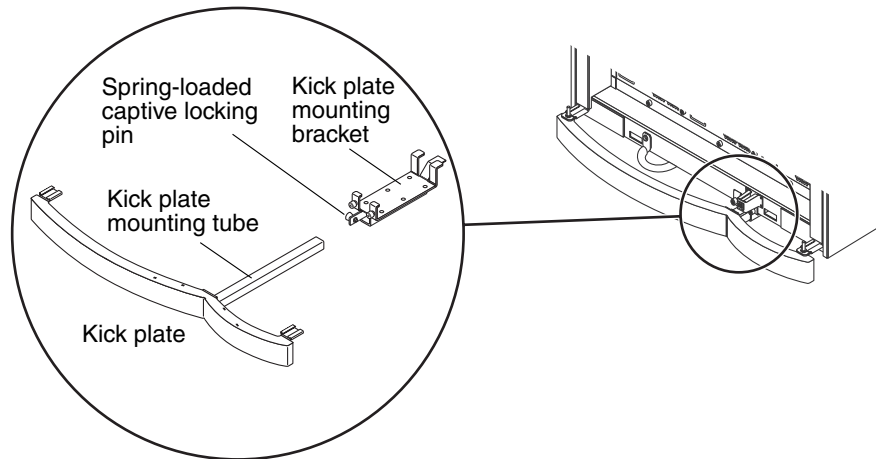

FIGURE 4-2 Cabinet Kick Plate Assembly Removal
2. Remove the front and rear kick plate assemblies (FIGURE 4-2).